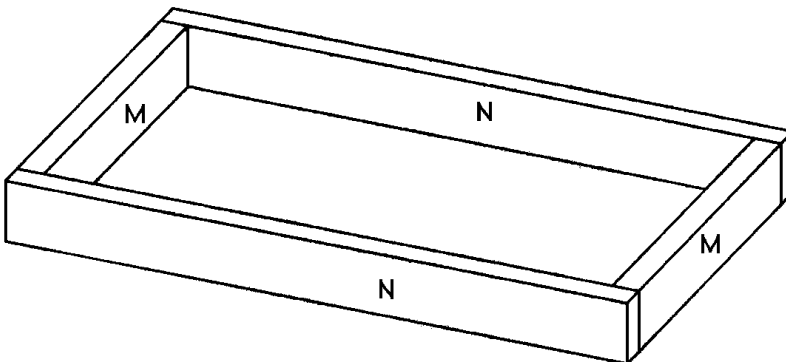
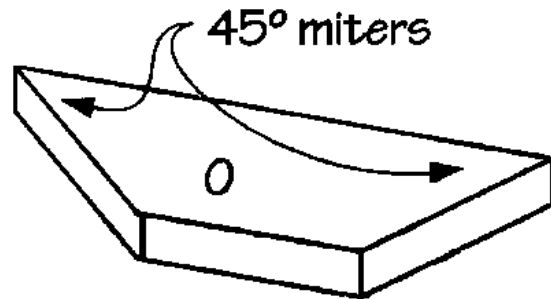

Figure 9
Figure 10
1. Cut 2 support blocks (L) from 1 x 2 pine, each measuring 4 inches long.
2. Place the completed cabinet on its front. Apply glue to the meeting surfaces and nail each of the support blocks (K) over the two joints between the vertical trims (D) and the wide horizontal trim (F) flush with the lower edge of the wide horizontal trim (F). Nail through each support block (L), using two 1-1/4-inch (3d) finishing nails, one on each side of the joint.
3. Cut two base sides (M) from 2 x 4 pine, each measuring 18-1/2 inches long.
4. Cut two base front/back (N) from 2 x 4 pine, each measuring 35 inches long.
5. Place the two base sides (M) parallel to each other and 32 inches apart. Fit the two base front/back (N) over the base sides (M), to form a rectangle measuring 35 x 21-1/2 inches, as shown in *Figure 9*. Screw through the base front/back (N) into the base sides (M) using two 2-1/2-inch screws on each joint.
6. Cut four base supports (O) from 2 x 4 pine, each measuring 12 inches long.
7. Miter the ends of each base support (O) across the width at opposing 45-degree angles, as shown in *Figure 10*.
1. Cut four support blocks (AA) from 1 x 2 pine, each measuring 4 inches long.
2. Place the completed cabinet on its front. Apply glue to the meeting surfaces and nail each of the support blocks (AA) over the four exposed between the vertical trims (T) and the horizontal trims (U). Nail through each support block (Y), using two 1-1/4-inch (3d) finishing nails, one on each side of the joint.
3. Cut two base sides (BB) from 2 x 4 pine, each measuring 11 inches long.
4. Cut two base front/back (CC) from 2 x 4 pine, each measuring 28 inches long.
5. Place the two base sides (BB) parallel to each other and 25 inches apart. Fit the two base front/back (CC) over the base sides (BB), to form a rectangle measuring 28 x 14 inches, as shown in *Figure 9*. Screw through the base front/back (CC) into the base sides (BB) using two 2-1/2- inch screws on each joint.
6. Cut four base supports (DD) from 2 x 4 pine, each measuring 7-1/2 inches long.
7. Miter the ends of each base support (DD) across the width at opposing 45-degree angles, as shown in *Figure 10*.